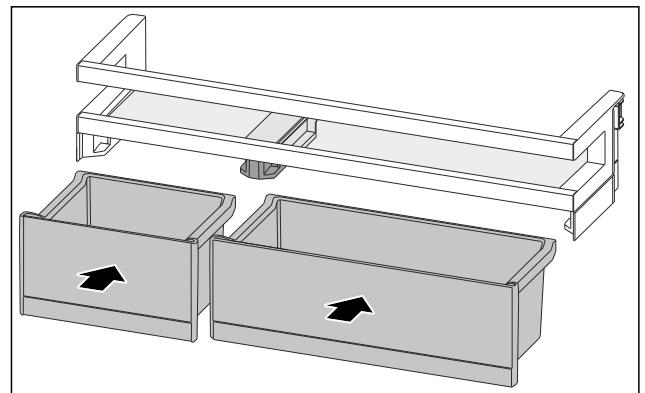

Fig. 112
- ▶ Insert the VarioBoxes opposite order. (see Fig. 112)